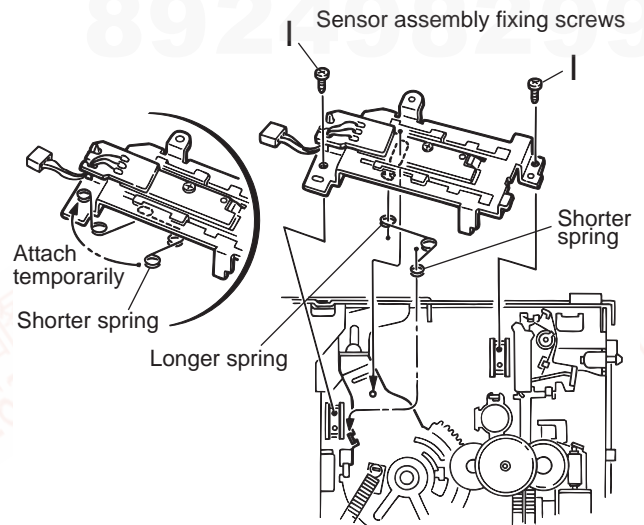

Fig.36
3.2.13.6 Mounting the sensor board assembly (See Fig.36)